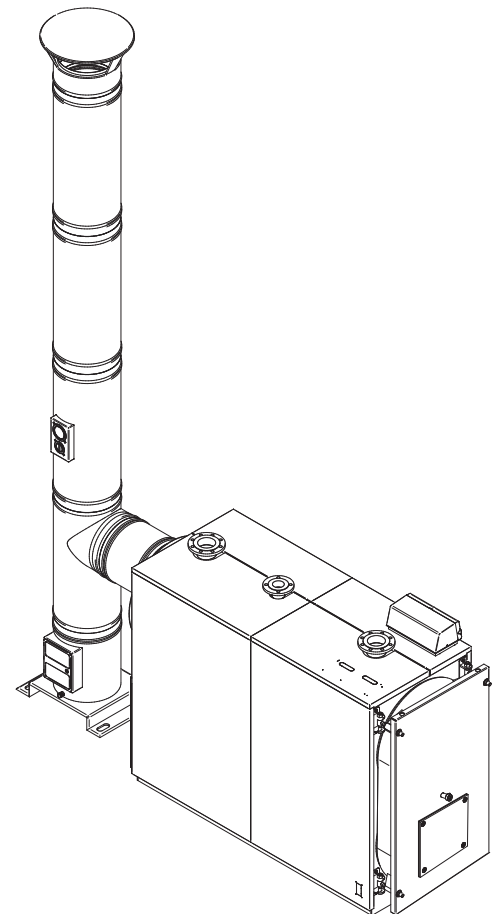

fig. 6
5.4 Discharge of the products of combustion (Fig. 6)